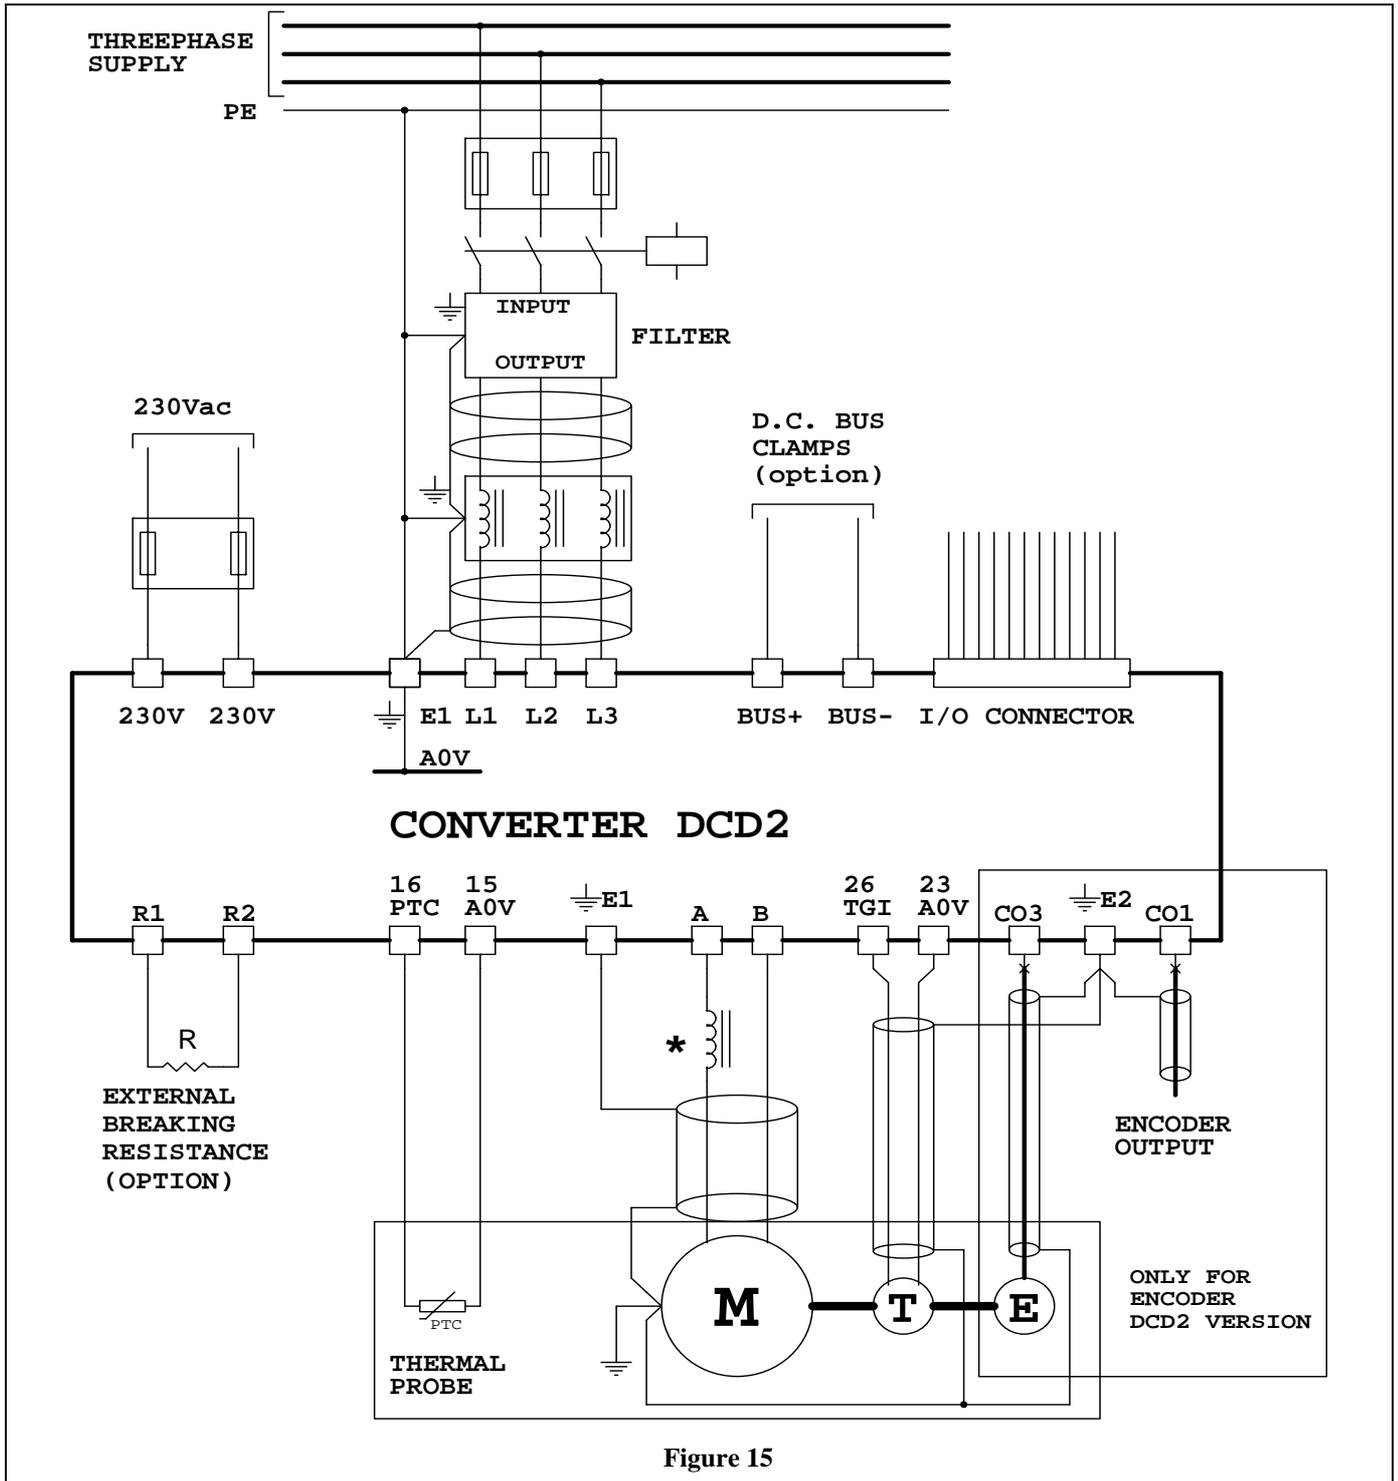

Figure 15
- For the sizing of the reported components in the Figure 15 to see **Chart 1** and **Chart 2** on page 14.
- To connect the thermal probe in the suitable way in the Figure 15 only if such signal is not available on the connector of the transducer.
To follow the connections of the motor and the tachogenerator ("T") as indicated in the Figure 15 on page 35.
- To connect the armature of the motor as indicated in Figure 15 on page 35.
- If the probe of temperature PTC of the motor is not connected on the connector of the signals, it is possible to use the clamps 15 and 16 of the converter (to see Figure 15 on page 35 and the point 3.3.6 on page 18).